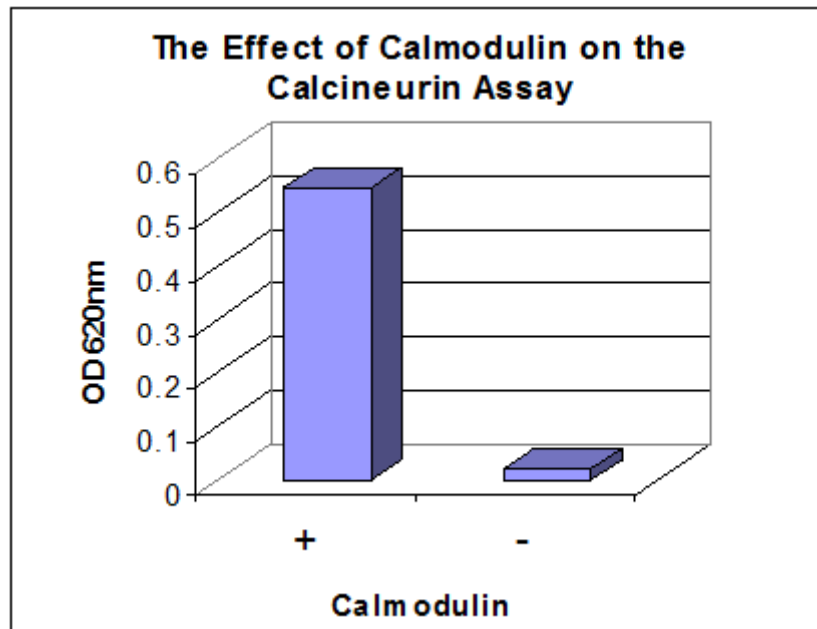

Figure 3. Calmodulin Activation of Calcineurin Phosphatase Activity
1. Figure 3 illustrates the activation of calcineurin's phosphatase activity by calmodulin. In the presence (+) of calmodulin, calcineurin's activity is high. In the absence (-) of calmodulin, calcineurin activity is relatively low.